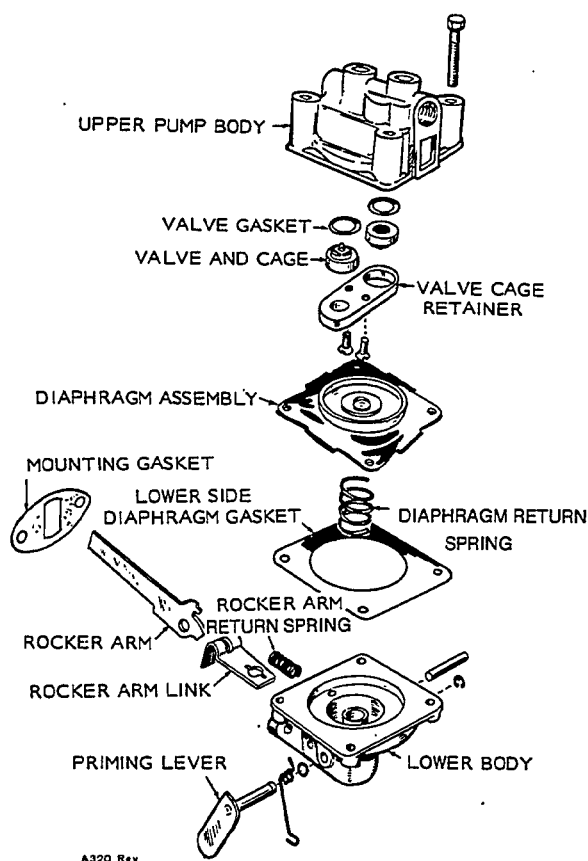

FIGURE 19. MECHANICAL FUEL PUMP - EXPLODED VIEW
3. Detach the valve cage retainer from the pump upper body. Noting their position, remove the valve and cage assemblies and their gaskets from the retainer (Figure 19).